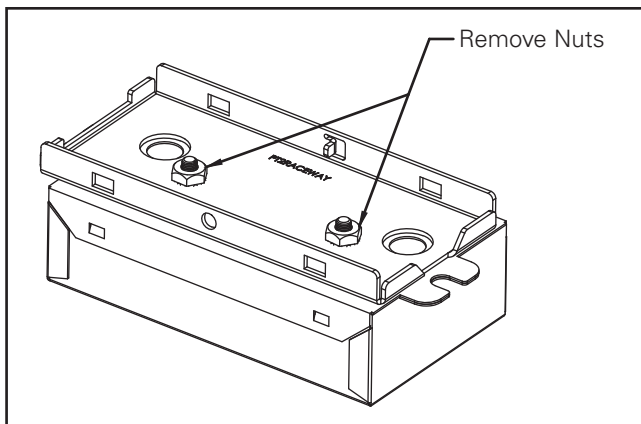

Figure 13
4. Remove two nuts from the lower raceway (see figure 13).